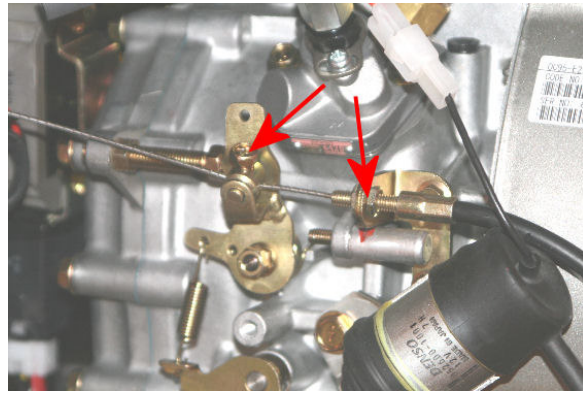

Fig 5-2 Throttle cable
5. Release and remove the throttle cable from the engine (*Fig 5-2*).